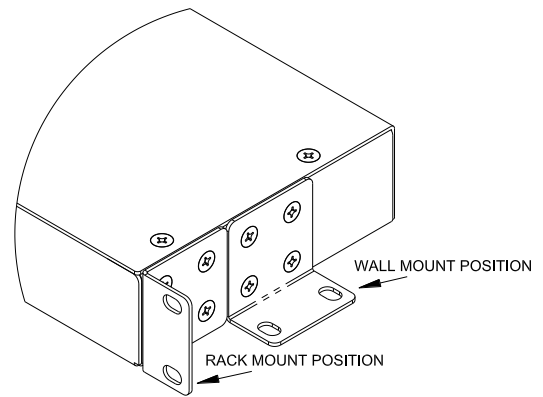

Figure 1.
**Wall:** Secure mounting brackets to the EZ-GW1W, then secure the EZ-GW1W to the wall. See Figure 1.
**Rack:** Secure mounting brackets to the EZ-GW1R. See Figure 1. Place the EZ-GW1R into a standard 19" rack and secure to rack with proper hardware (not included).